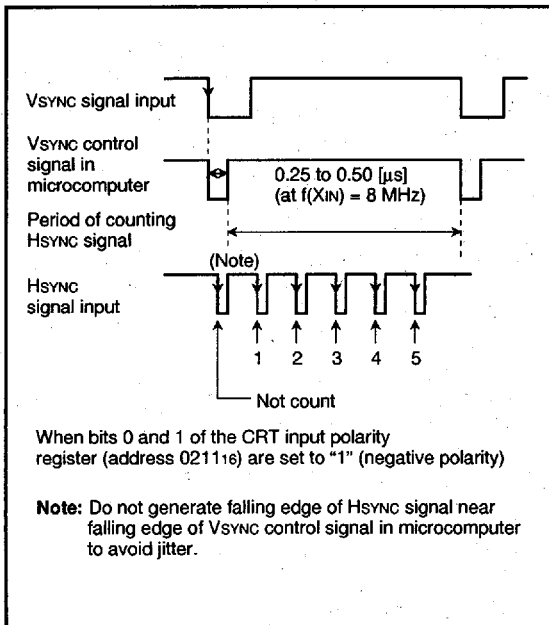

Fig. 49 Supplement explanation for display position
**Note:** When bits 0 and 1 of the CRT input polarity register (address 021116) are set to "1" (negative polarity), the vertical position is determined by counting falling edge of Hsync signal after rising edge of Vsync control signal in the microcomputer (refer to Figure 49).
In the following, the phase difference determination standard for the case where both the horizontal sync signal and the vertical sync signal are negative-polarity inputs will be explained. A phase difference is determined by detecting the time from a falling edge of the horizontal sync signal until a falling edge of the Vsync control signal (refer to Figure 49.) in the microcomputer and then comparing this time with the time of the previous field. When the time is longer than the comparing time, it is regarded as out-of-phase. When the time is shorter, it is regarded as in-phase. A 1-character font can be displayed in both fields by displaying 1 dot in the out-of-phase field and displaying 1 dot in the in-phase field.